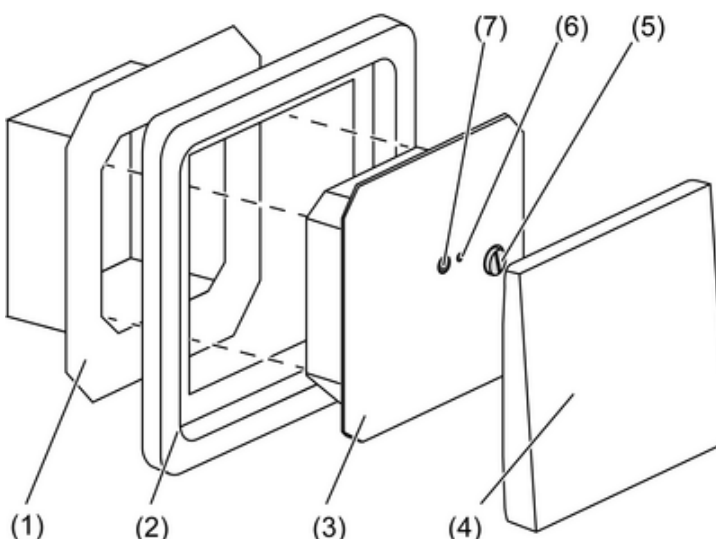
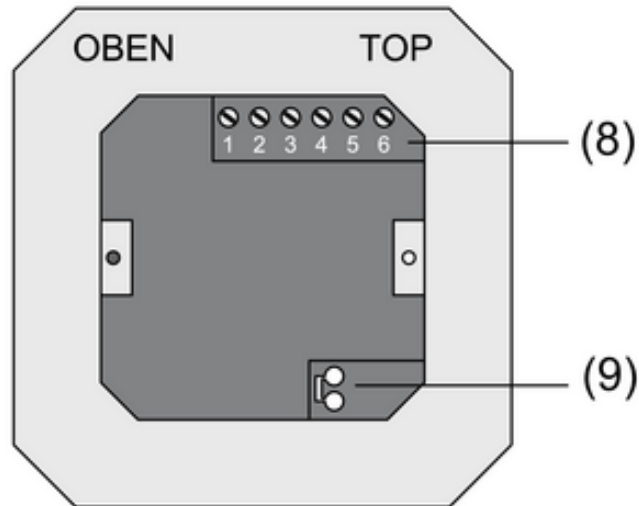
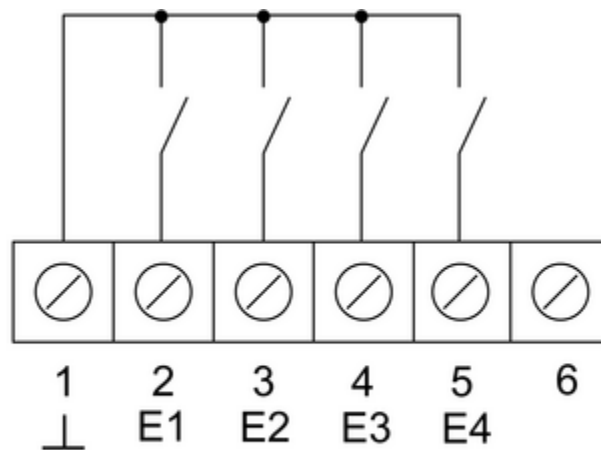
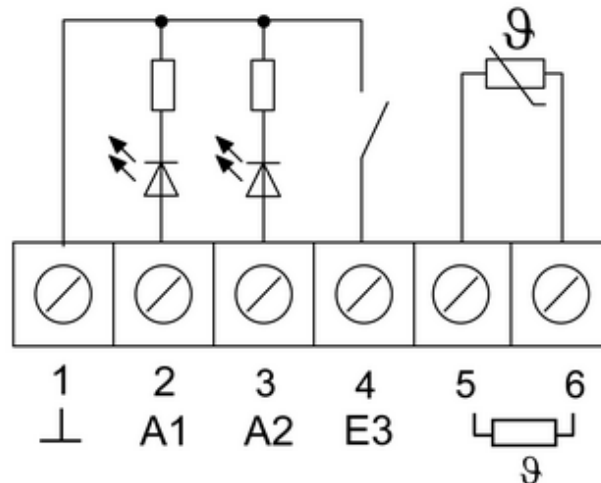

Figure 1
Figure 2
Figure 3
Figure 4
- Isolate terminal insert (1) from electronic insert (3) (figure 1).
- Connect the bus line to the connection terminal (9) in the terminal insert (figure 2).
- Binary inputs **E1...E4**: Connect NO or NC contacts as switches or buttons to the terminals **1** and **2...5**(figure 3) of the terminal strip (8) (figure 2).
- Binary inputs **A1...A2**: Connect the LED or electronic relay to the terminals **1** and **2, 3** (figure 4) of the terminal strip (8) (figure 2).
- Connect the external temperature sensor to the terminals **5** and **6** (figure 4) of the terminal strip (8) (figure 2).
- Insert terminal insert (1) (figure 1) in flush-mounted appliance box. Note label **OBEN / TOP**. The bus connection (9) (figure 2) must be to the right and below.
- Fit the Design frame (2) on terminal insert (1) (figure 1).
- Removing the cover (4) (figure 1).
- Insert the electronics cover into the terminal insert in the correct orientation (figure 1).
- Fasten the electronics cover with the locking screw (5) (figure 1).
- Reattach the cover (4) (figure 1).
- Press the programming button (7) (figure 1).
The programming LED (6) is illuminated (figure 1).
The programming LED (6) is extinguished (figure 1).